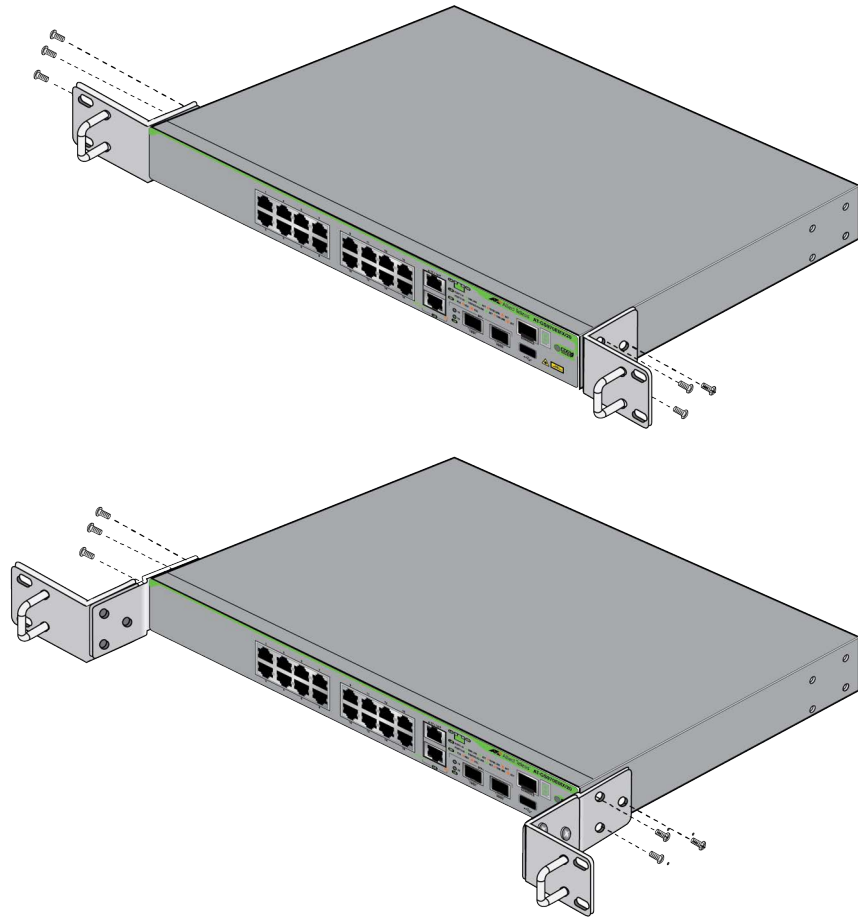

Figure 38. Attaching the RKMT-J13 Brackets to the GS970EMX/20 Switch
5. Attach the brackets to the sides of the switch with six of the 4x8mm screws included in the kit. Refer to Figure 38.